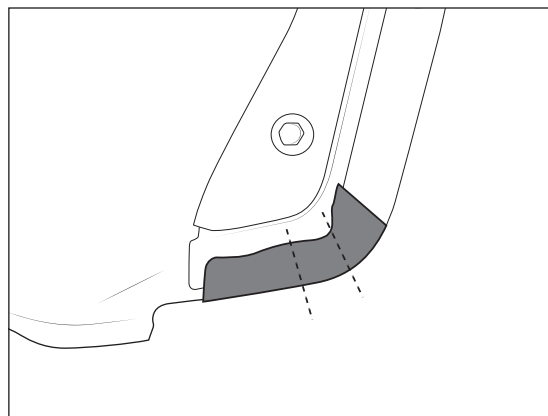

Figure 9
9. Once the material has been worked around this contour, cut two reliefs in the locations shown below. (fig. 9).